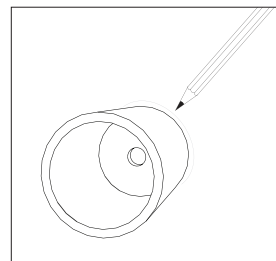
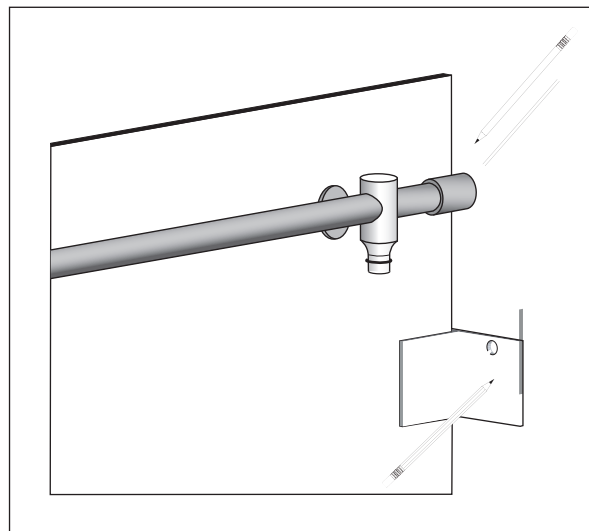

Figure 6
Figure 7
- H. Mark the position of both the left and the right Wall Brackets (#1) drawing around the Wall Brackets (#1) then mark both Glass-to-Wall Clamp holes (#10) using your pencil (See Figure 6 and Figure 7).
- J. Take one (1) of the Wall Brackets (#1) with the threaded round mounting screw and place it over the round circle you drew when marking the Rail height. Mark the holes to drill on both sides of your tub/shower walls (See Figure 7).
- K. Drill holes for Wall Brackets (#1) and Glass-to-Wall Clamp (#10), and then insert the screw anchors. Mark the Glass-to-Wall Clamp holes (#10) using your pencil (see Figure 6 and Figure 7).